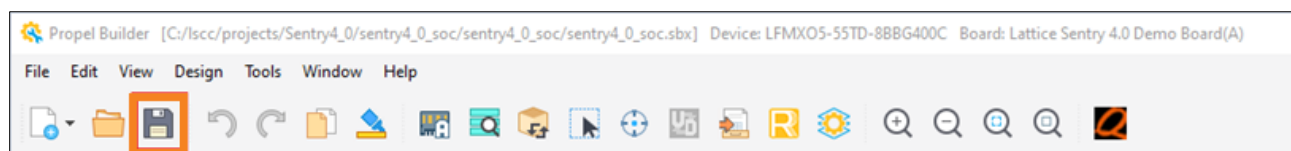

Figure 4.9. Propel Builder Save Icon
11. Choose **File > Save** or click the Save icon to save the SoC project (Figure 4.9).